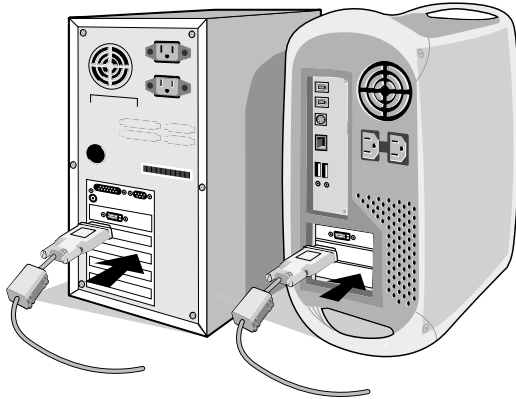

Figure A.1
2. **For the PC or MAC with DVI digital output:** Connect the DVI signal cable to the connector of the display card in your system (**Figure A.1**). Tighten all screws.
For the PC with Analog output: Connect the 15-pin mini D-SUB to 15-pin mini D-SUB signal cable to the connector of the display card in your system (**Figure A.1**).